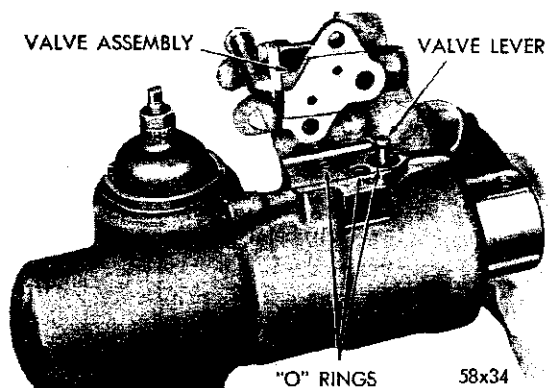
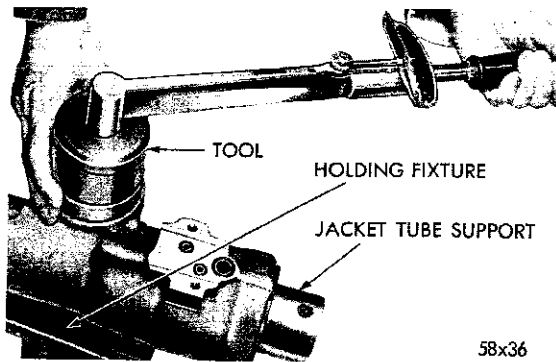

Fig. 27—Removing the Valve Body Assembly
Fig. 28—Removing the Gear Shaft Cover Nut
(3) Remove the valve body housing attaching screws and remove the valve body and the three "O" rings (Fig. 27).
(4) Remove the valve lever and spring. Pry under the spherical head with a screwdriver. Use care not to collapse the slotted end of the valve lever as this will destroy the bearing tolerances of the spherical head.
(5) Loosen the gear shaft adjusting screw locknut to facilitate removal and remove the gear shaft cover nut with Tool C-3633 (Fig. 28).